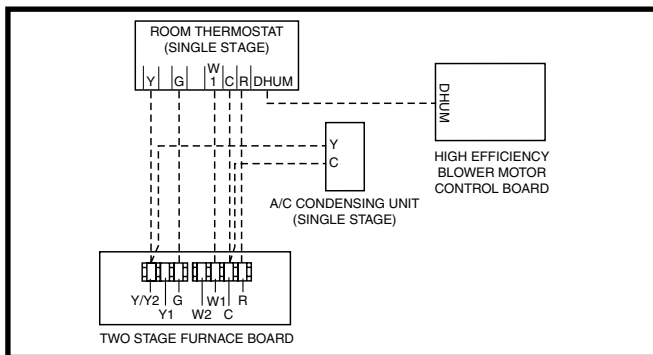
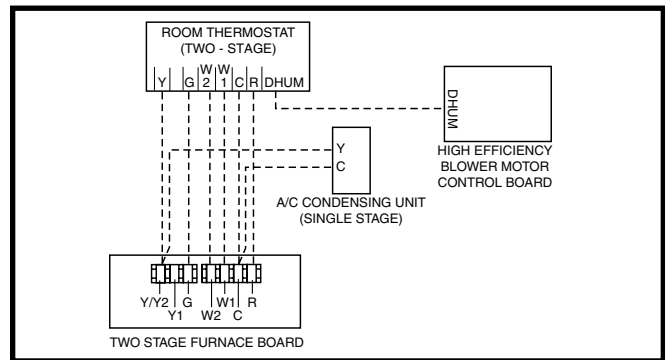
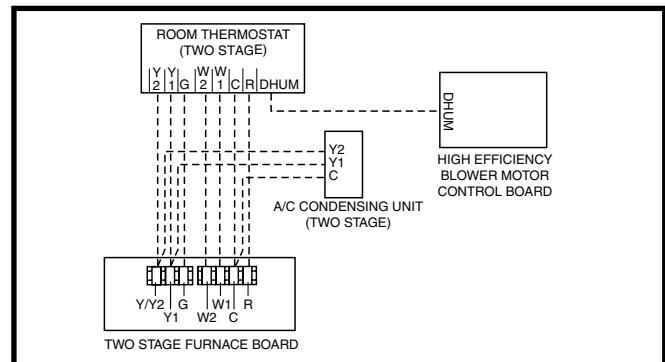

Figure 15. Wiring Configuration 1
Figure 16. Wiring Configuration 2
Figure 17. Wiring Configuration 3
- Connect the thermostat's **W** output to the furnace control boards **W1** terminal. This allows the furnace to always run in low output mode. See Figure 15.
This option uses the full two-stage heating capability of the furnace with a single stage outdoor unit. See Figure 16.
This option uses the full two-stage heating capability of the furnace with a two-stage outdoor unit. See Figure 17.
The Autostaging feature included make it possible to use a single stage thermostat and still receive some of the benefits of 2-stage furnace operation. If Autostage is enabled, the furnace will drop to **LOW** fire after initially starting in **HIGH** fire. After a period of 10 minutes, the furnace will then stage up to **HIGH** fire, until the heating load is met. See Figure 15 and the Thermostat / Low Voltage Connection section.
- √ Verify that all needed thermostat wires are securely connected to the correct leads on the terminal strip of the circuit board. See Figure 15, \(page 20\), Figure 16, \(page 20\), & Figure 17, \(page 20\).
The operating sequences for the heating, cooling, and fan modes are described below. Refer to the field and furnace wiring diagrams: Figure 14, (page 19) , Figure 15, (page 20), Figure 16, (page 20), Figure 17, (page 20), Figure 25, (page 33), Figure 26, (page 34), Figure 27, (page 35), and Figure 28, (page 36).